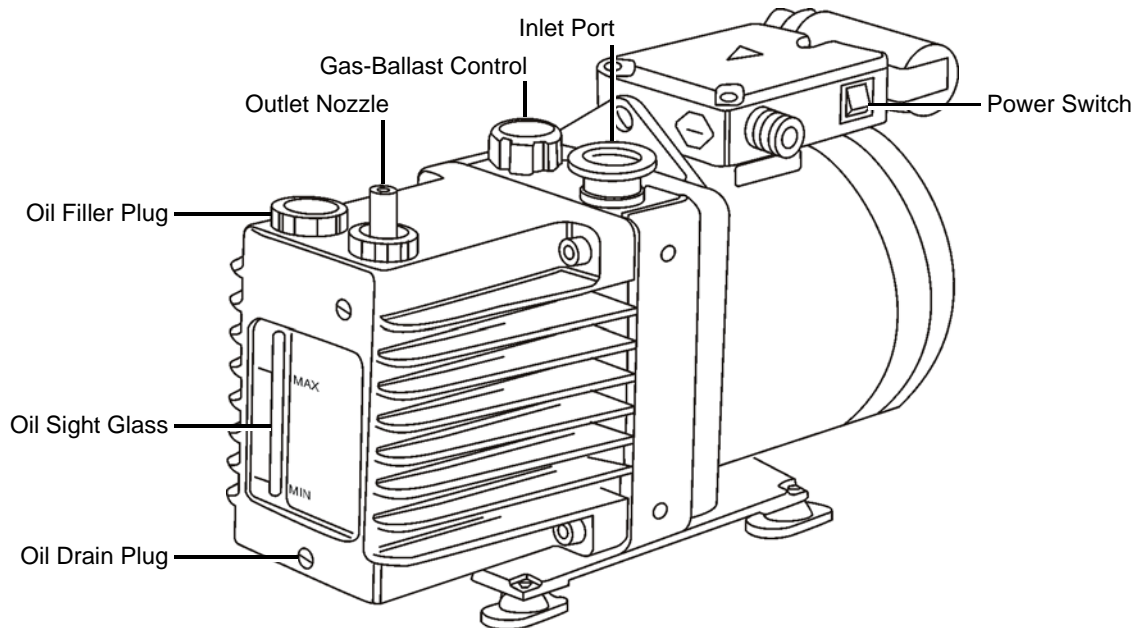

Figure 7-1 Rotary Pump
2. Operate the gas-ballast control (Figure 7-1).
The rotary pump oil level appears in the oil level sight glass on the pump (see Figure 7-1).
6. Place an object under the motor to tilt the pump toward the side on which the oil drain plug is located (see Figure 7-1).